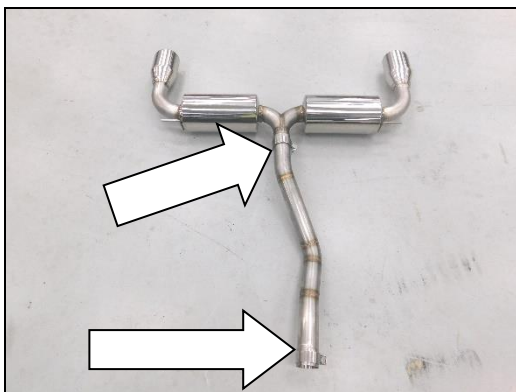
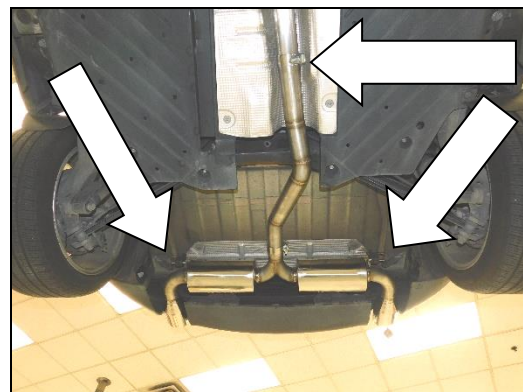

Figure 9
Figure 10
- Slide on the (x2) supplied 2 ½" band clamps and install the Blackheart mid pipe to the Blackheart muffler (**Figure 9**). Now, install the Blackheart muffler and Blackheart mid pipe to the Blackheart front pipe. Slide (x2) hangers in to the OE rubber isolators (**Figure 10**).